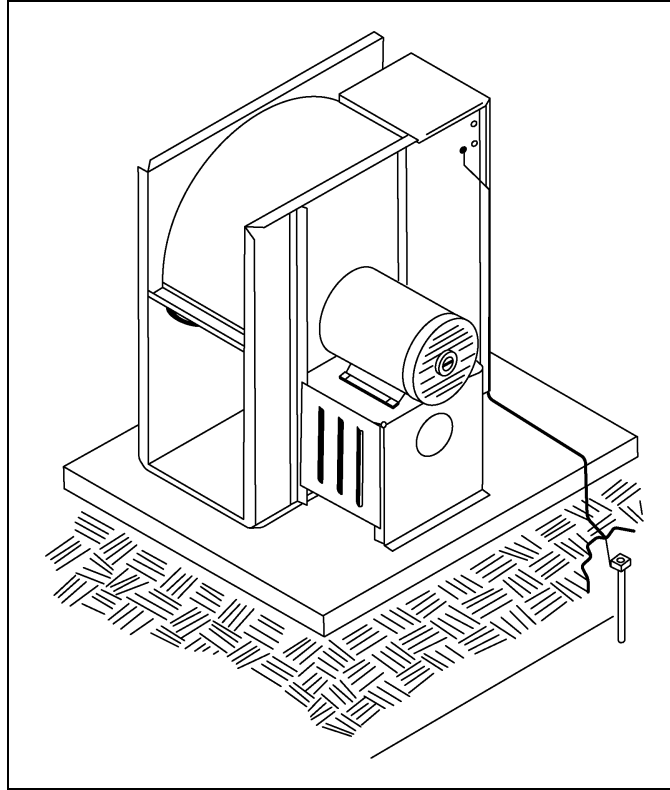

Figure 3B
6. Connect the bare ground wire to the fan control boxes with a grounding lug. *(See Figure 3B.)*